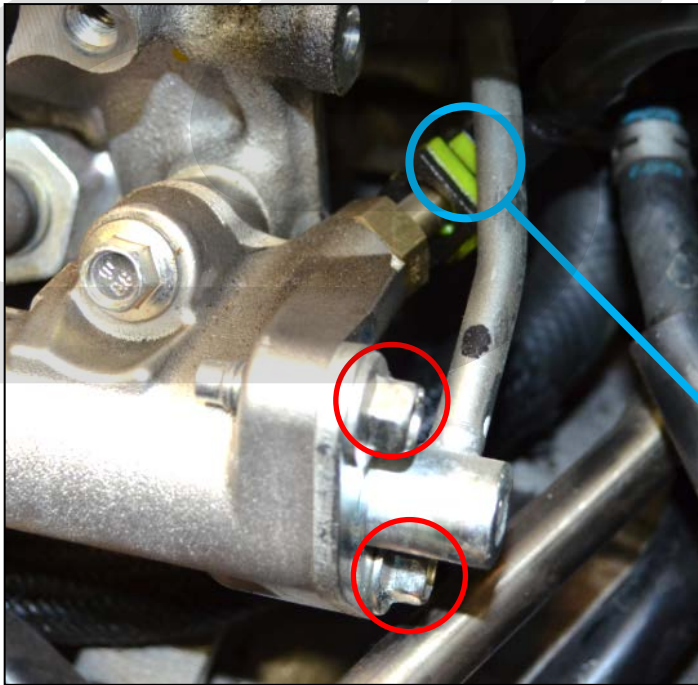

Figure 6a
a) Remove the high pressure fuel line bolts with a 10mm socket wrench, shown with red circles in Figure 6a.